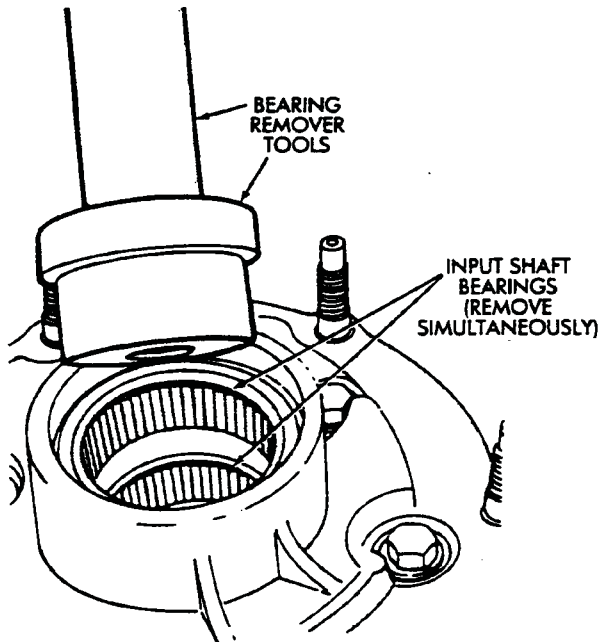

Fig. 4-32 Removing Input Gear Bearings
13. Remove the two input gear bearings from the front case simultaneously with driver tools (Fig. 4-32).